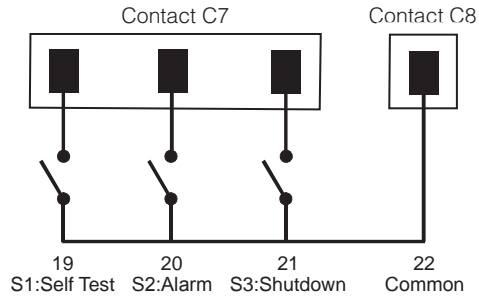

Figure 3.7- User Input Layout
- **User Input (C7):** This relay has 3 contacts to control the FXM (Figure 3.7). They are:
**22 (C):** Isolated return for contacts S1, S2 and S3. It is located on contact C8 (#22).